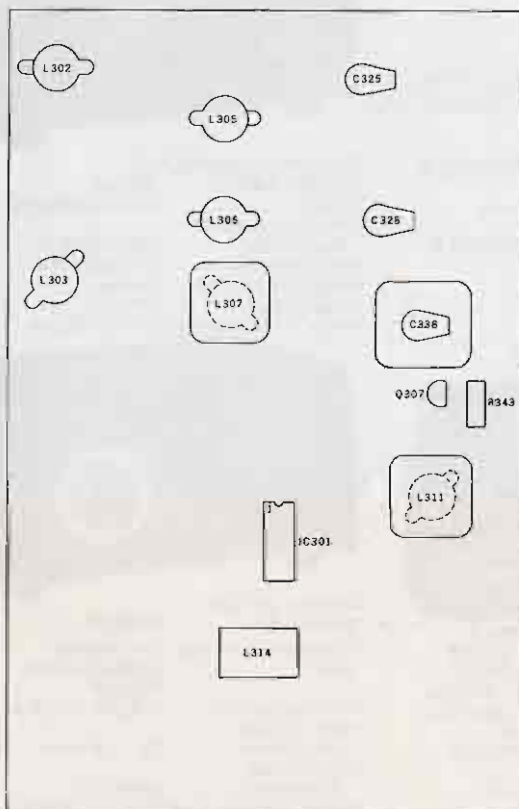

Fig. 3. Locations of rf and i-f components for Touch alignment procedures.
- Adjust L303 and L302 for best quieting. The locations of these coils are shown in Fig. 3.